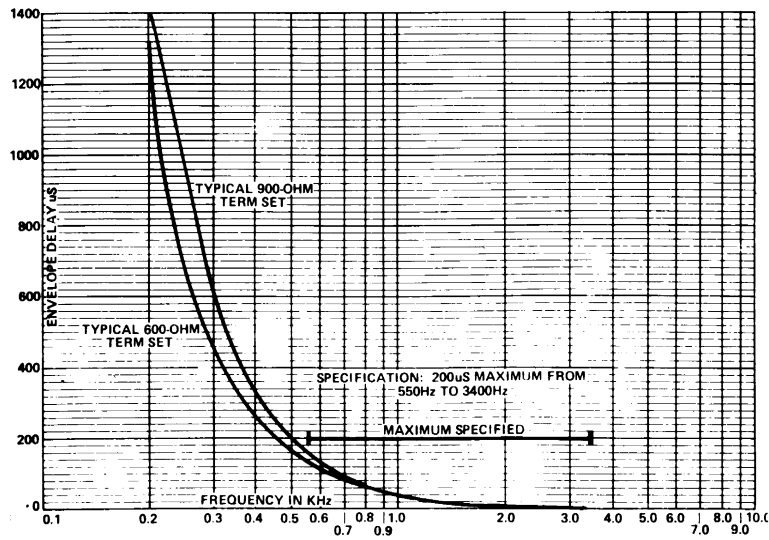

Figure 9. Envelope Delay Distortion Specification
- (g) ENVELOPE DELAY DISTORTION: As shown in Figure 9.